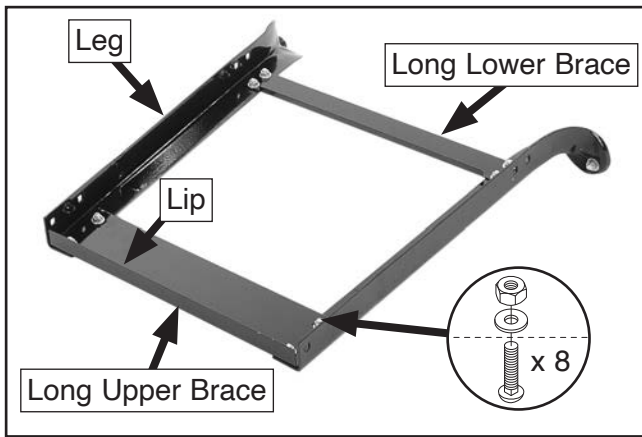

Figure 18. Stand legs fastened to long braces.
2. Repeat **Step 1** to install remaining feet on the other (3) legs.
3. Fasten (1) long upper and long lower brace to (2) stand legs with (8) $\frac{5}{16}$ "-18 x $\frac{1}{2}$ " carriage bolts, $\frac{5}{16}$ "-18 hex nuts, and $\frac{5}{16}$ " flat washers, as shown in **Figure 18**. Finger tighten the fasteners for now.